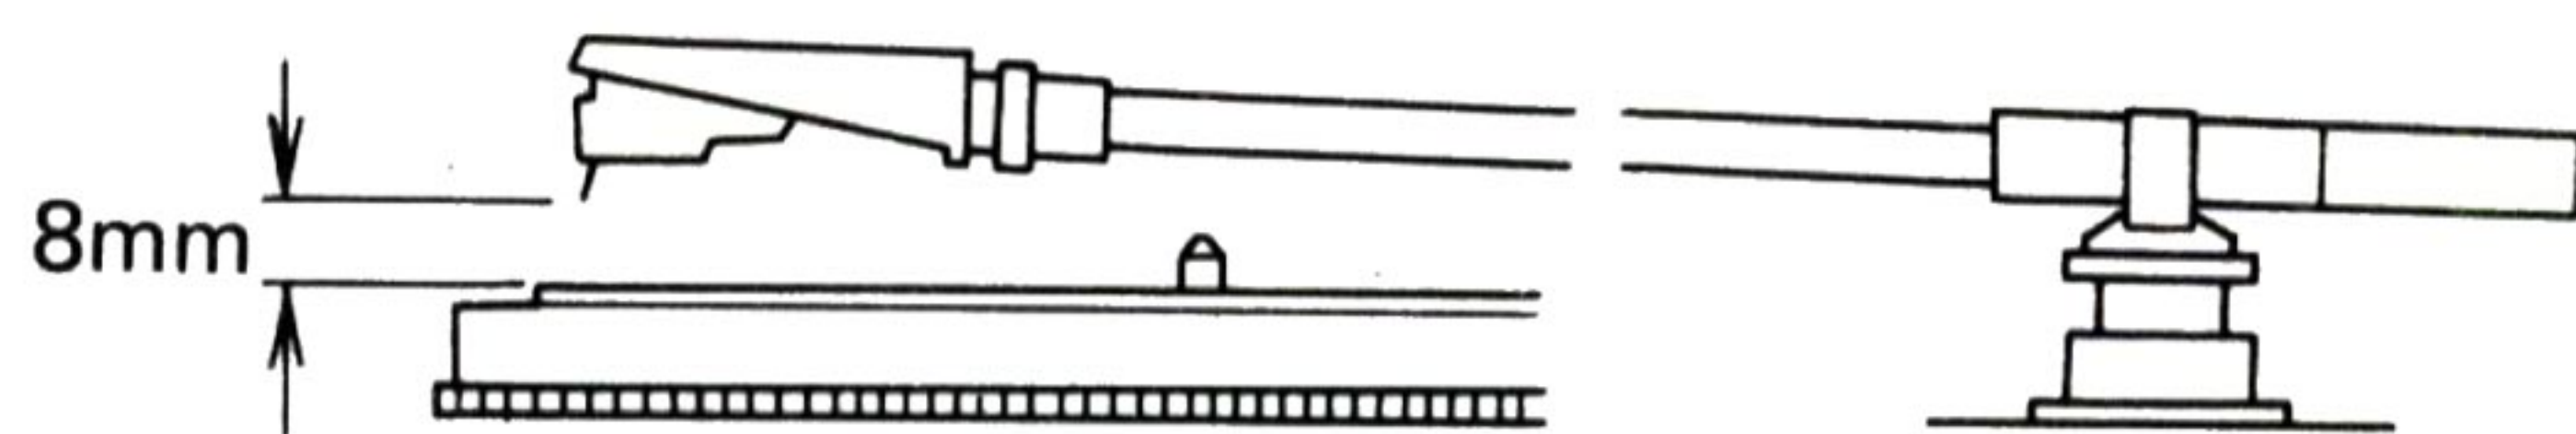

Fig. 23
- Set the ARM ELEVATION lever to UP position. Adjust the height of the arm lifter so that the gap between stylus tip and record surface is 8mm. See Figs. 23, 24.